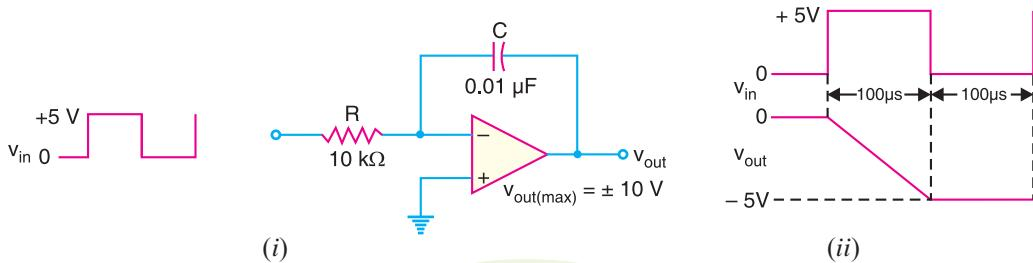

Fig. 25.86
**Example 25.52.** (i) Determine the rate of change of the output voltage in response to a single pulse input to the integrator circuit shown in Fig. 25.86 (i).
Therefore, the negative-going ramp reaches  $-5 \text{ V}$  at the end of the pulse (*i.e.* after  $100 \mu\text{s}$  from the initial condition). The output voltage then remains constant at  $-5 \text{ V}$  for the time the input is zero. Fig. 25.86 (ii) shows the output waveform.